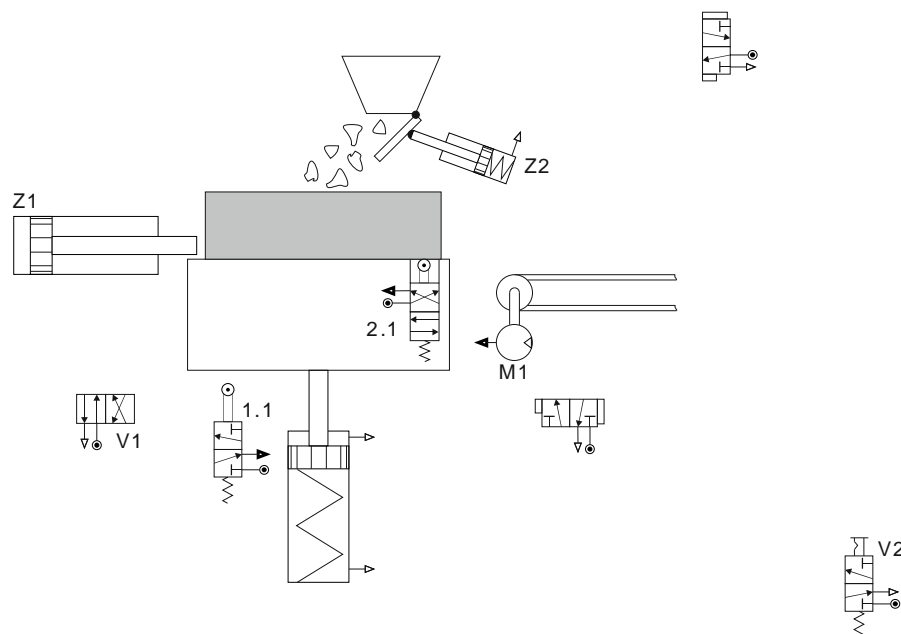

Figure 6.1: Scheme of an automatic loading
Figure 6.1 shows an automatic loading process. A box is placed on scales during the loading. The weight of the box is measured by the spring stroke. When the final weight is reached, the hatch closes and the box is pushed onto the conveyor belt and is carried away. By placing a new box on the scales, the process will restart. An emergency switch guarantees a safe stop of the loading process in a case of an emergency.
- All push buttons, valves and cylinders in Figure 6.1 are shown in the state of loading.
Don't use Figure 6.1 !